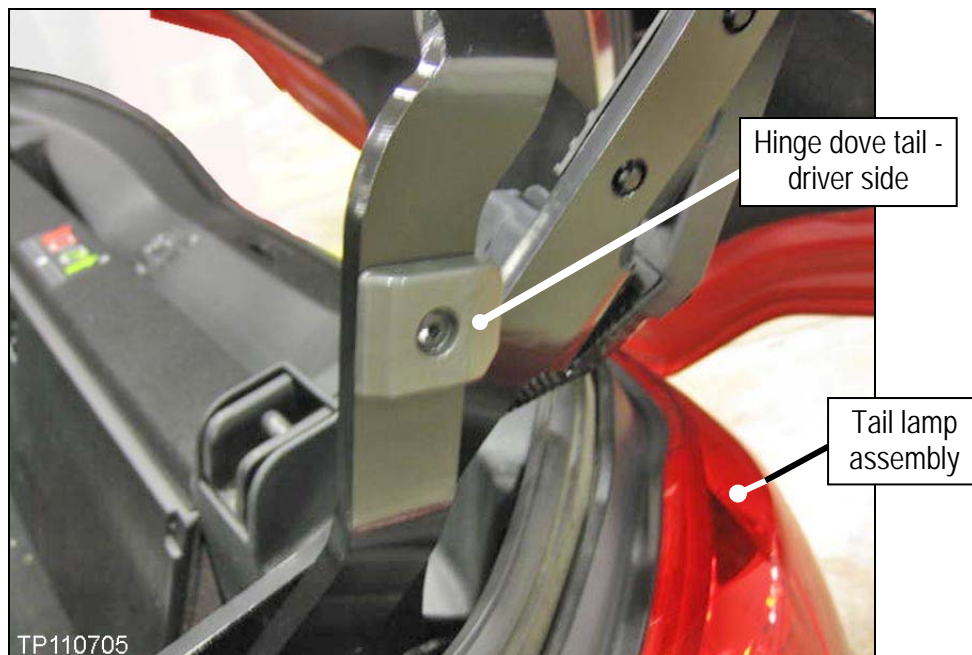

Figure 47f
46. Inspect both driver and passenger side hinge dove tails (see Figure 47f).